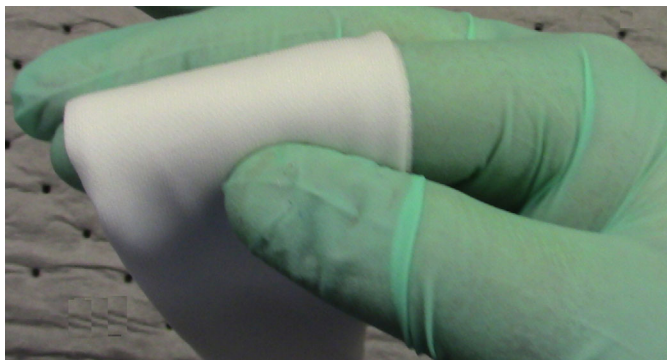

Figure 8-2 Holding wipe between fingers
2. Position the wipe between your fingers, Figure 8-2, and place wipe parallel to the Print Head Plate at the Carriage rear.